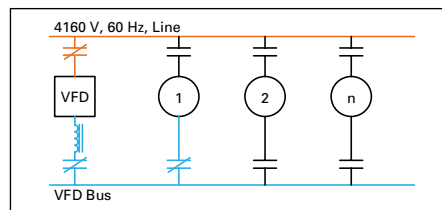

Figure 10.5-11. VFD Starts Motor #1
- VFD closes input contactor (Figure 10.5-11)